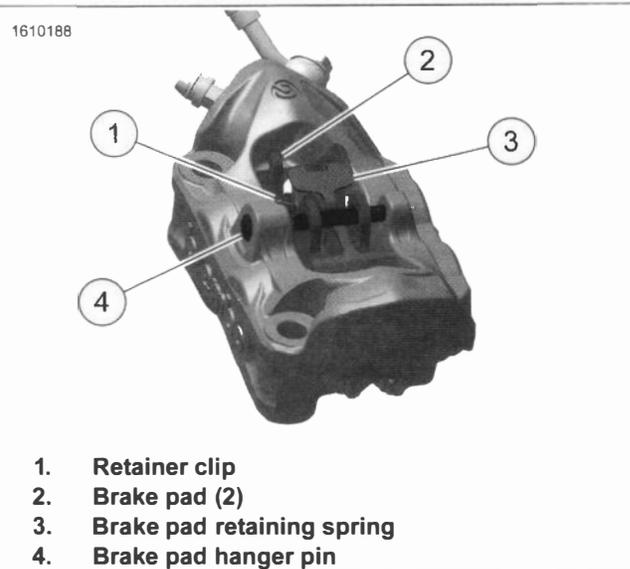

Figure 2-9. Front Caliper Assembled
2. See Figure 2-9. Remove retainer clip (1).
3. Remove brake pad hanger pin (4).
4. Remove brake pad spring (3).
5. Remove brake pads (2).